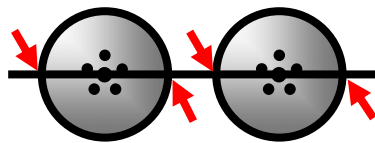
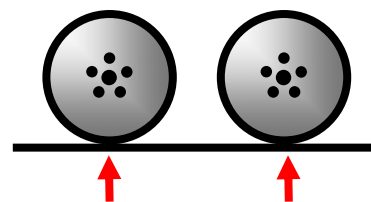

Fig. 1
Fig. 2
- Step 2:** Then I jacked up and blocked the trailer. Remember, I was removing the axle, the trailer needed to be blocked securely, evenly and **level**. I also removed the tires from the wheels. It was necessary for making certain the axles were mounted absolutely parallel to one another (Fig. 1).
Step 8: This is also where it becomes evident why I was working with bare rims. Using a perfect straightedge, I placed it against both rims and made certain the straightedge touched in four places (Fig. 1). Because I was working with a perfectly level trailer, I was also able to use the straightedge to make certain the rims were level at the bottom (Fig. 2).